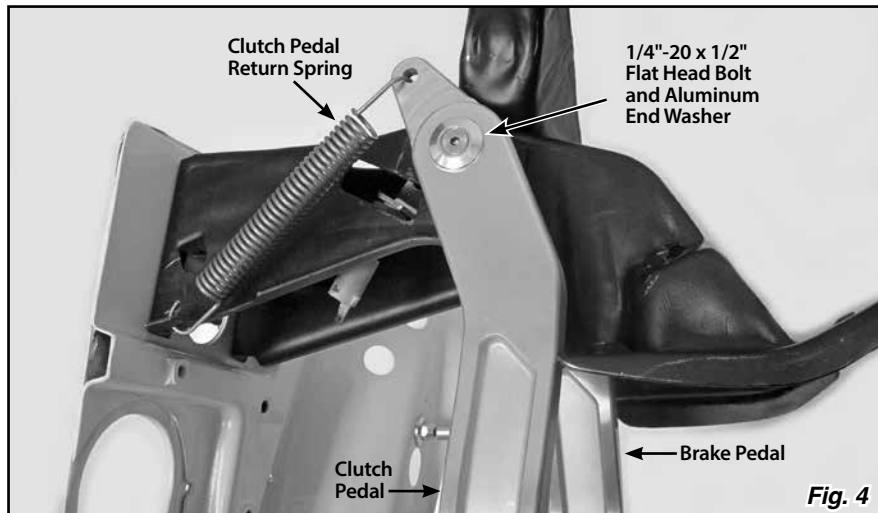

Fig. 4
- Step 4:** Install the Clutch Pedal onto the left hand end of the splined shaft. Install the aluminum end washer onto the left hand end of the splined shaft. Connect one end of the return spring to the hole at the very top of the Clutch Pedal, and connect the other end to the hole in the pedal hanger bracket near the firewall. **Fig. 4**